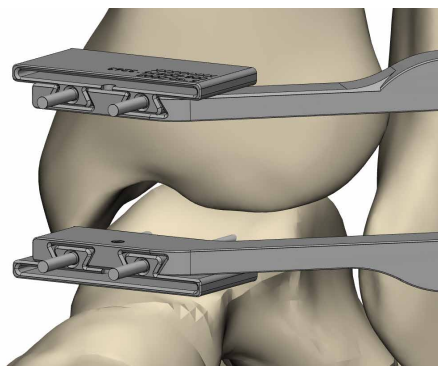

Fig. 4.2
- 4.2.** Under power, fixate each cut guide with two 2.4mm k-wires placed bicortically. (fig 4.2). X-rays may be used to confirm coronal and sagittal alignment of the cut guides.